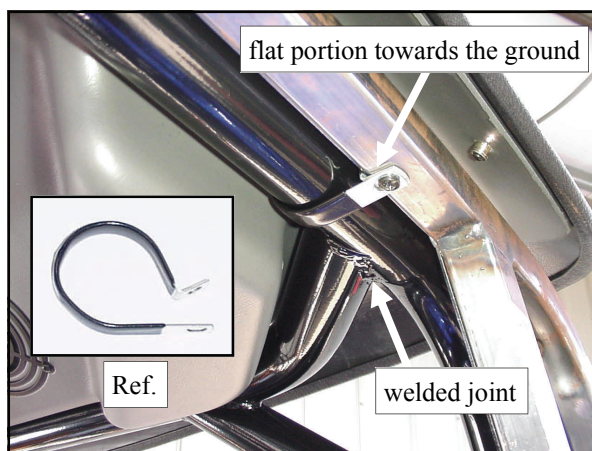

Fig. 6.2 View from passenger's side
6.2 Use a small bar clamp to hold the side frame against the top side tubular frame. Using a drill and a Phillips head bit, install two self-drilling and self-tapping screws through the “P” clamps and into the underside of the side frame tubing as shown in figure 6.2. Do not over-torque these screws. Reminder: be sure these two clamps are spread apart approximately 13”. One should be just ahead of the ball stud and the other one as far forward as the tubular frame will allow before the welded seam.